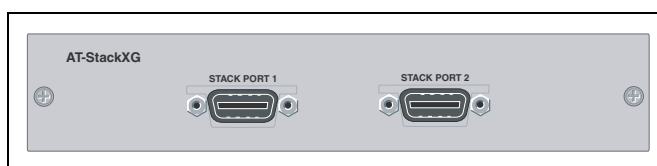

Figure 26. AT-StackXG Stacking Module
- ❑ The AT-StackXG has two full-duplex, 12 Gbps stacking ports, shown in Figure 26.